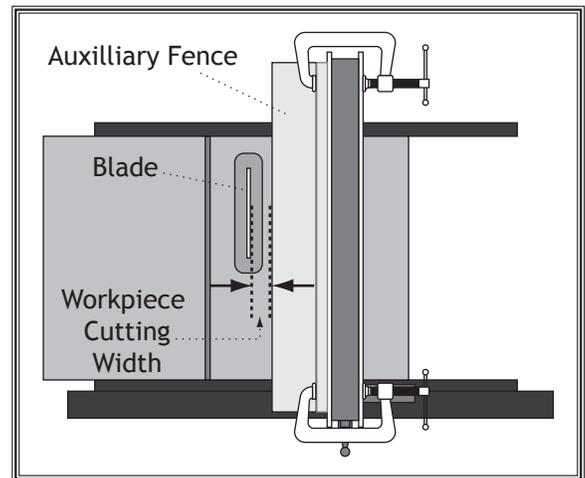

Figure 93. Adjusting ripping distance between blade and auxiliary fence.
1. Place auxiliary fence on table and clamp it to fence at both ends, then adjust distance between auxiliary fence and blade—this determines how wide workpiece will be ripped (see **Figure 93**).